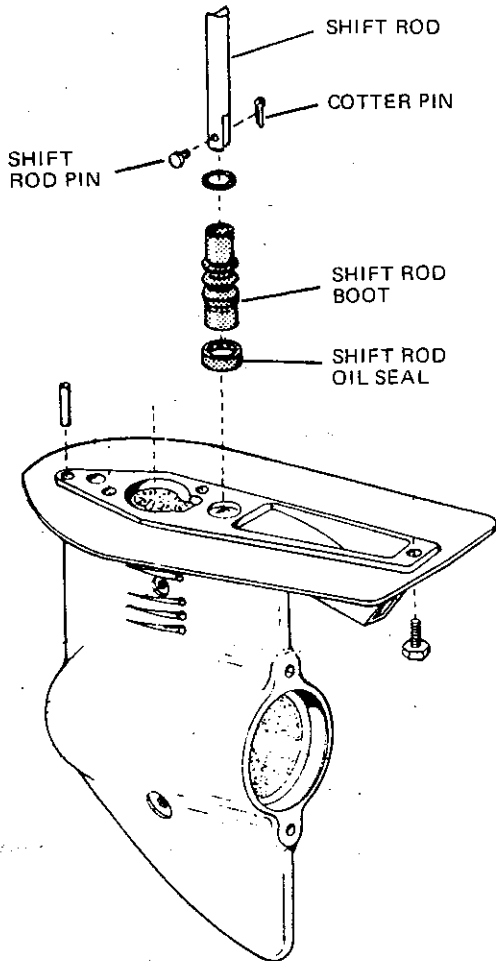

Figure 17. View of shift rod, boot and seal.
- W. To remove the shift rod, remove the cotter pin and shift rod pin and pull out the shift rod (Figure 17).